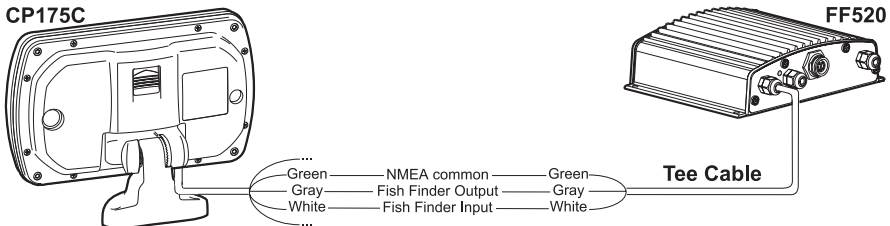

Figure 2.2b - CP175C Connection
3. Step back the black insulation on the "Tee" cable about three inches to expose the wires inside the cable. Connect the wires from the CP175C to the FF520 "Tee" cable referring to figure 2.2b CP175C Connection.